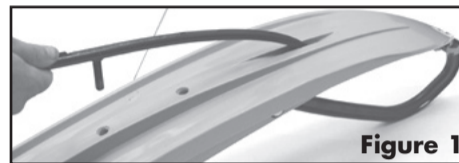
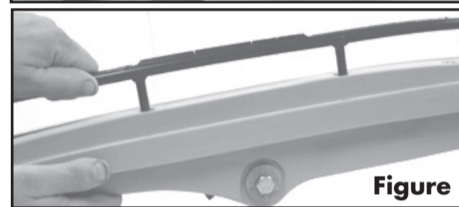

Figure 1
Figure 2
1. Insert the front end of the runner into the runner opening or indentation provided in the ski. (figure 1) Swing the rear end of the runner to align the runner bolts with the bolt holes in the ski. Then insert the bolts through the ski. Some pressure may be required. (figure 2)